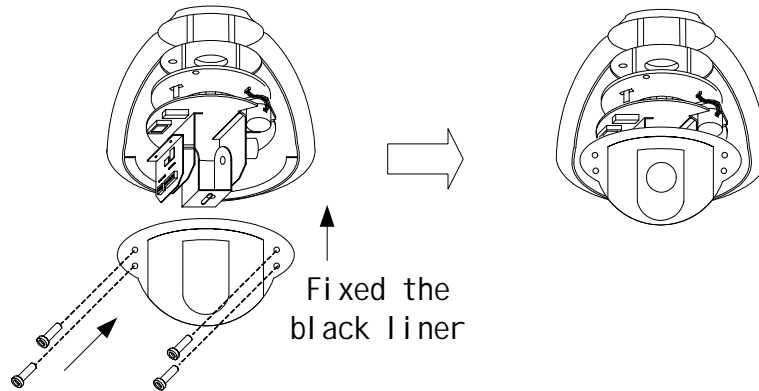

Figure 8
- 5) Fix the black liner (see Figure 8).